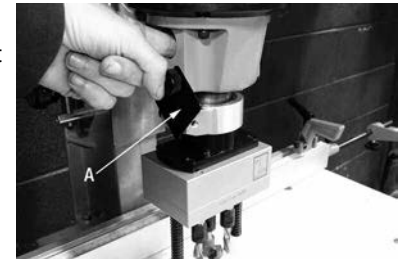

FIGURE 6
- 4) Verify for proper fitment of the male end of the link-bar in the female end. Open the side cover (A) Fig.6, using your finger turn the spindle, if the 3 spindles of the Hinge Boring Head Attachment turn then the assembly was done correctly. If the 3 spindles do not turn, repeat the instructions on this page until the Hinge Boring Head Attachment is installed as described.